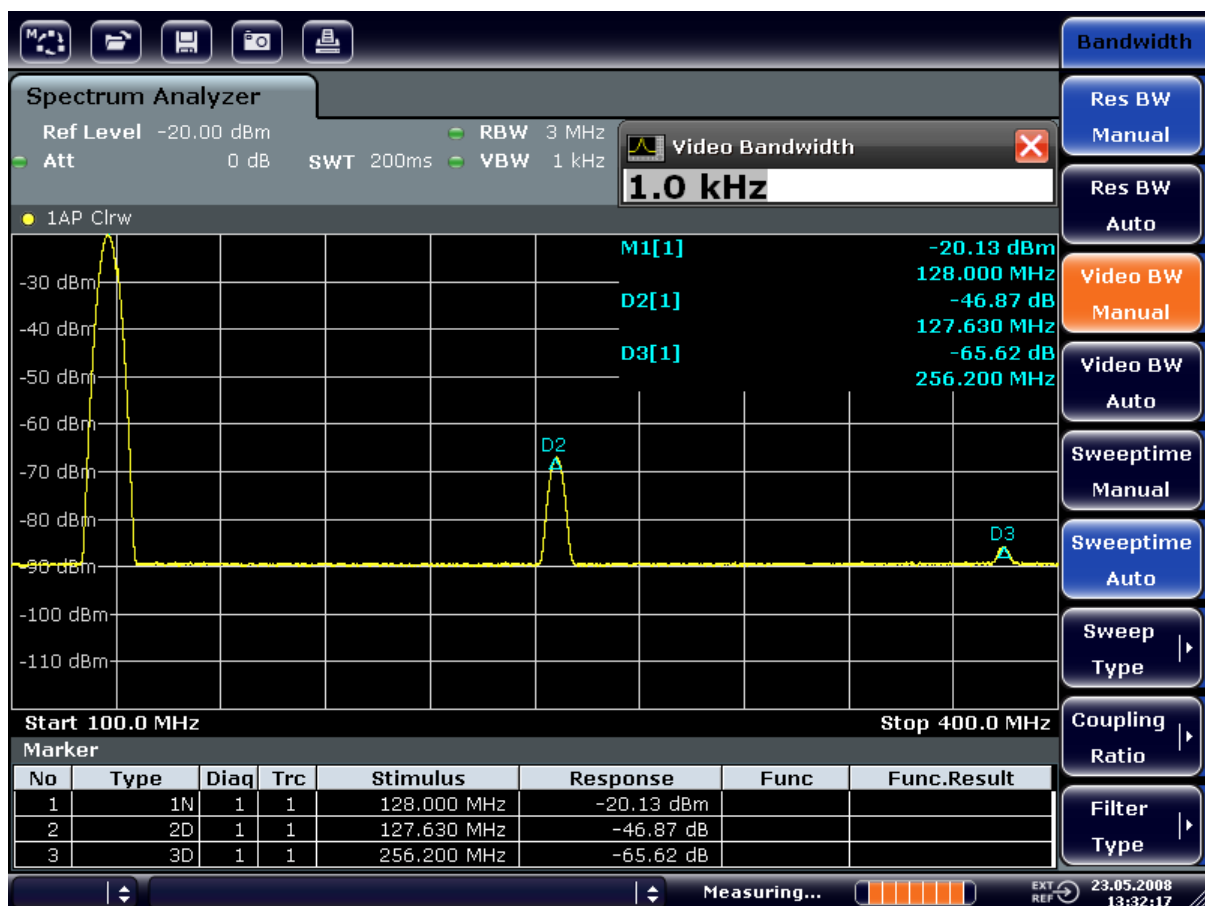

Fig. 6-11: Suppression of noise during harmonics measurement by reducing video bandwidth
3. Reduce the video bandwidth to 1 kHz (for example), by entering 1 kHz. This smooths the noise significantly, and the sweep time is increased to 200 ms. In other words, the measurement will take significantly more time. The video bandwidth that is displayed is marked with a bullet to indicate that it is no longer coupled to the resolution bandwidth (see figure 6-11).